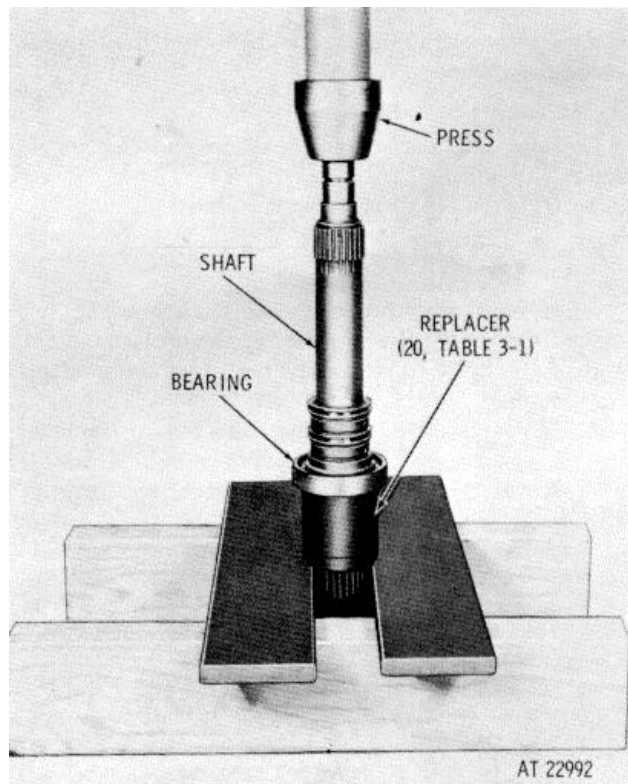

Figure 7-5. Installing bearing onto torque converter output shaft.
a. If plug (38) was removed from output shaft (39), install a new plug. Press the plug into the shaft until it is firmly seated.
b. Using replacer 20, table 3-1, install bearing (36) onto output shaft (39). Press the bearing until it is firmly seated against the shoulder of the shaft. Refer to figure 7-5.
c. Install two step-joint sealrings (40, FO-3) onto output shaft (39) Use oil-soluble grease to retain them.